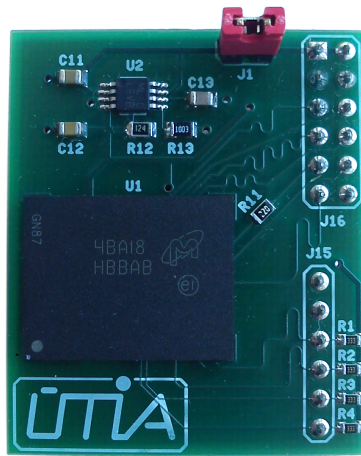

Figure 2: e•MMC 32 GB Memory MTFC32GJWDQ-4M Board.
- e•MMC 32 GB Memory MTFC32GJWDQ-4M Board (see Figure 2). To get detailed information about the board contact ÚTIA, Department of Signal Processing on this e-mail: [matulik@utia.cas.cz](mailto:matulik@utia.cas.cz).